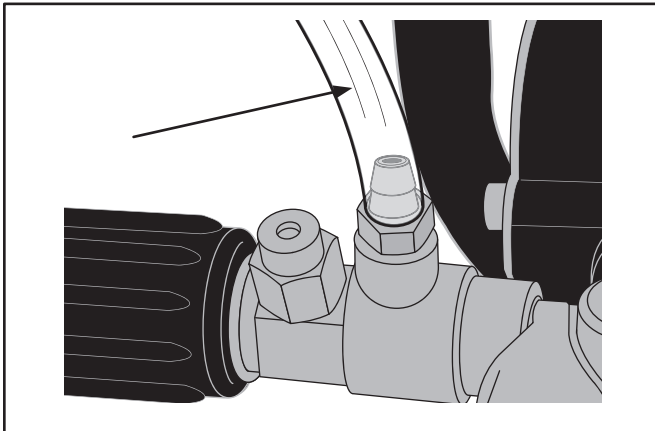

Figure 4-3
1. Ensure detergent siphon hose is attached to barbed fitting location near high pressure hose connection of pump as shown. See Figure 4-3.